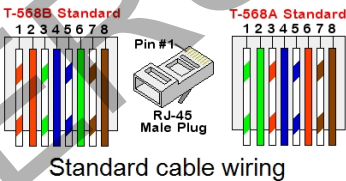

Figure 23: Standard cable wiring
- c. Insert the eight wires into an RJ45 connector, as described in *Figure 23*.
7. For the switch/router side, use a pre-crimped cable or use a crimper to prepare an RJ45 communication connector: Insert the eight wires into the RJ45 connector in the same order as above (*Figure 23*).